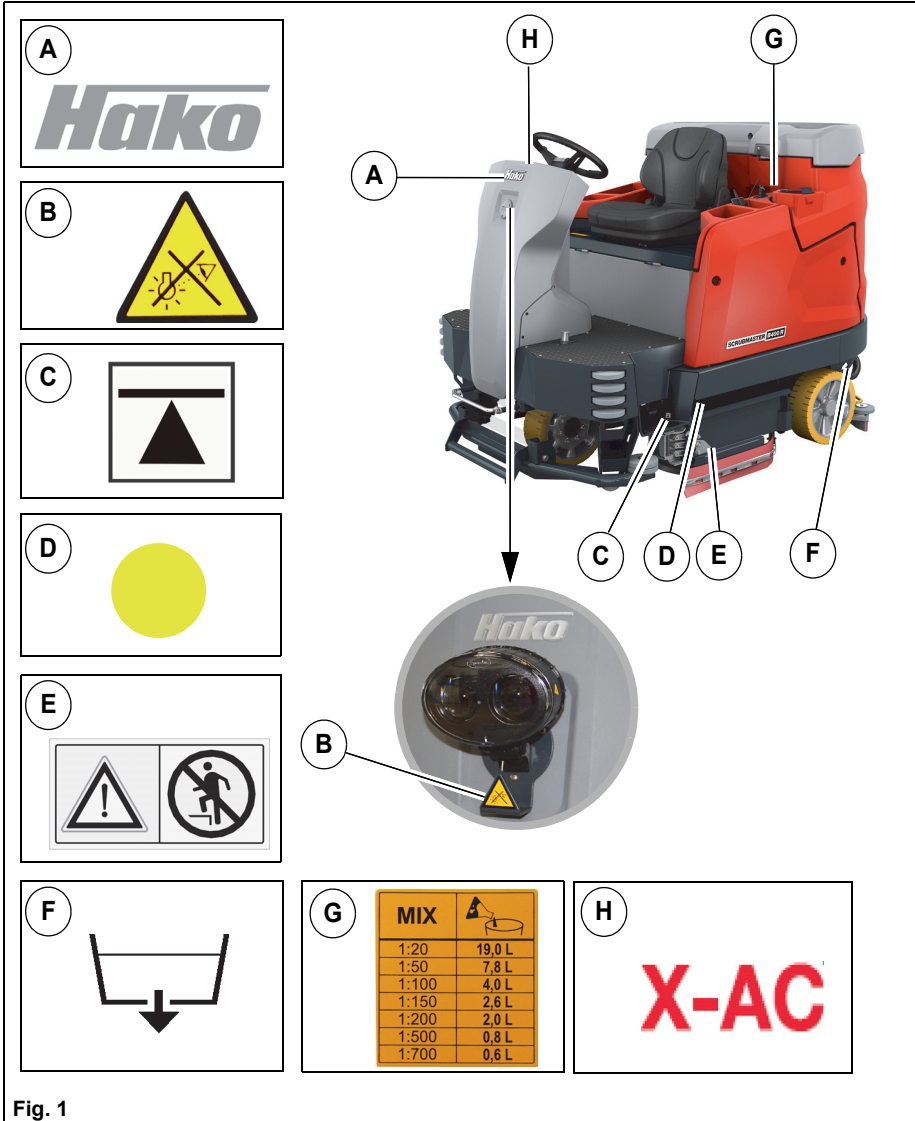
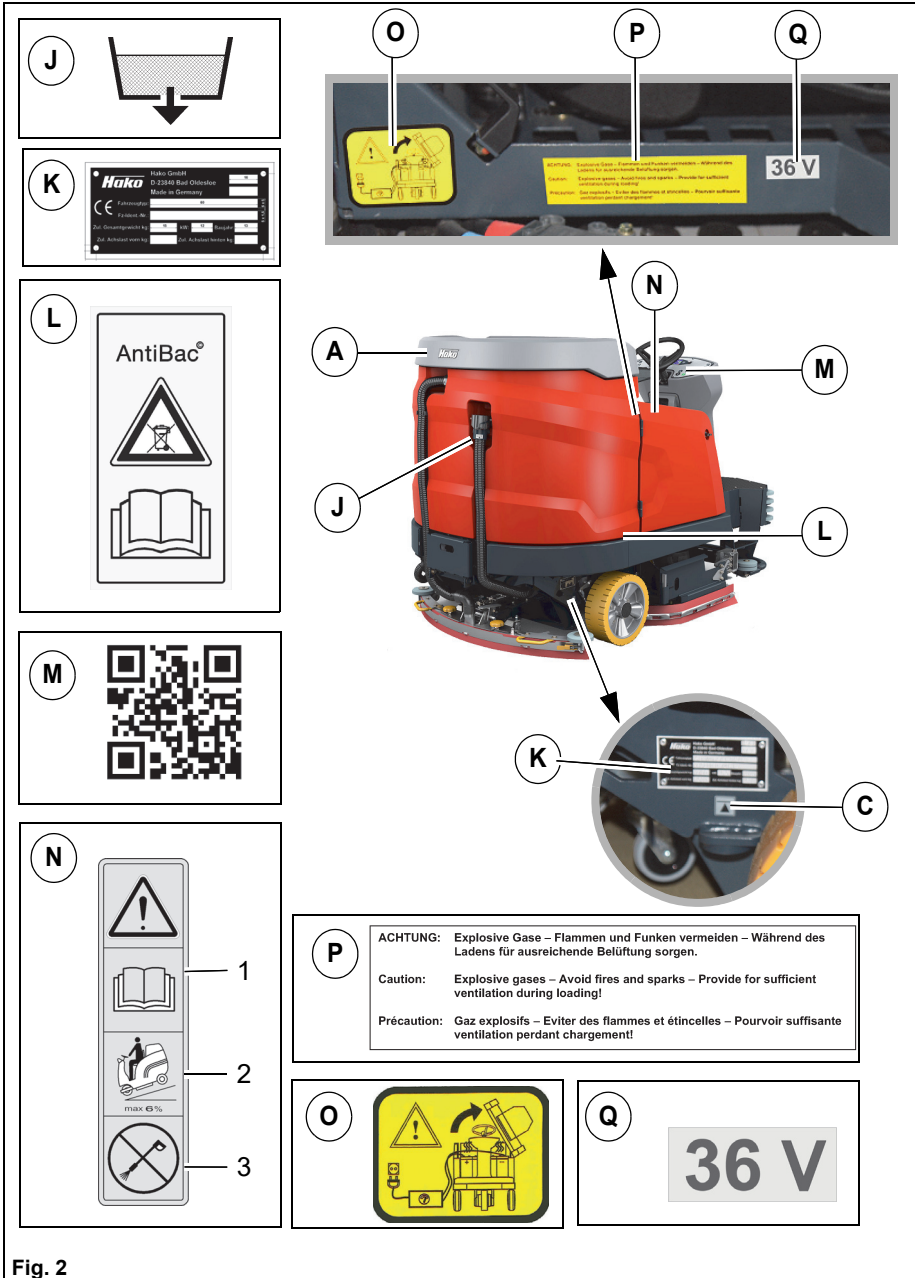

Fig. 1
Fig. 2
Label: Company logo Fig. 1-A / Fig. 2-A
Label: Avoid looking directly at the light! Fig. 1-B
Label: Jacking points for lifting platform / vehicle jack Fig. 1-C / Fig. 2-C
Label: Maintenance parts (yellow dot) Fig. 1-D
Label: Keep off! Fig. 1-E
Label: Drain fresh water Fig. 1-F
Label: Detergent dosing Fig. 1-G
Label: X-AC drive Fig. 1-H
Label: Drain waste water Fig. 2-J
Label: Type plate Fig. 2-K
Printing: Do not dispose of AntiBac® tanks in domestic waste – observe the information stipulated in the operating manual! Fig. 2-L
Label: QR code Fig. 2-M
- **Read and observe the operating manual Fig. 2-N1**
- **Maximum permissible slope 6 % when cleaning Fig. 2-N2**
- **Never clean the machine with a high-pressure cleaner Fig. 2-N3**
Label: Leave seat console open during the charging procedure! Fig. 2-O
Label: Explosive gases Fig. 2-P
Label: 36 V Fig. 2-Q